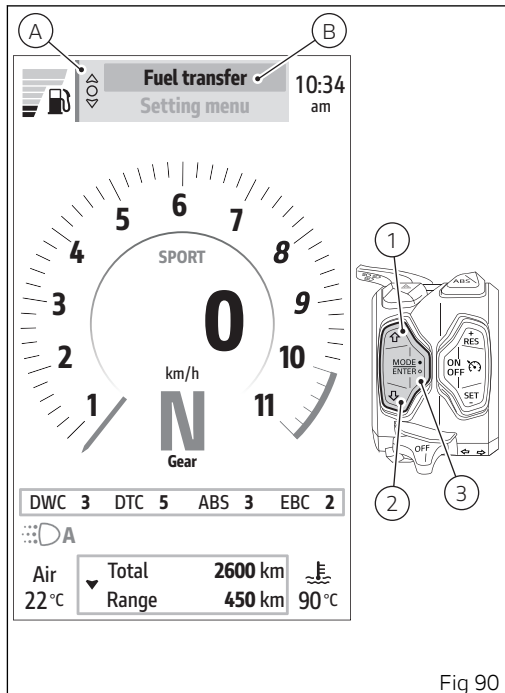

Fig 90
Use buttons (1) and (2) from the Interactive Menu to select item "Fuel transfer" (B, Fig 90) and press the ENTER button (3).